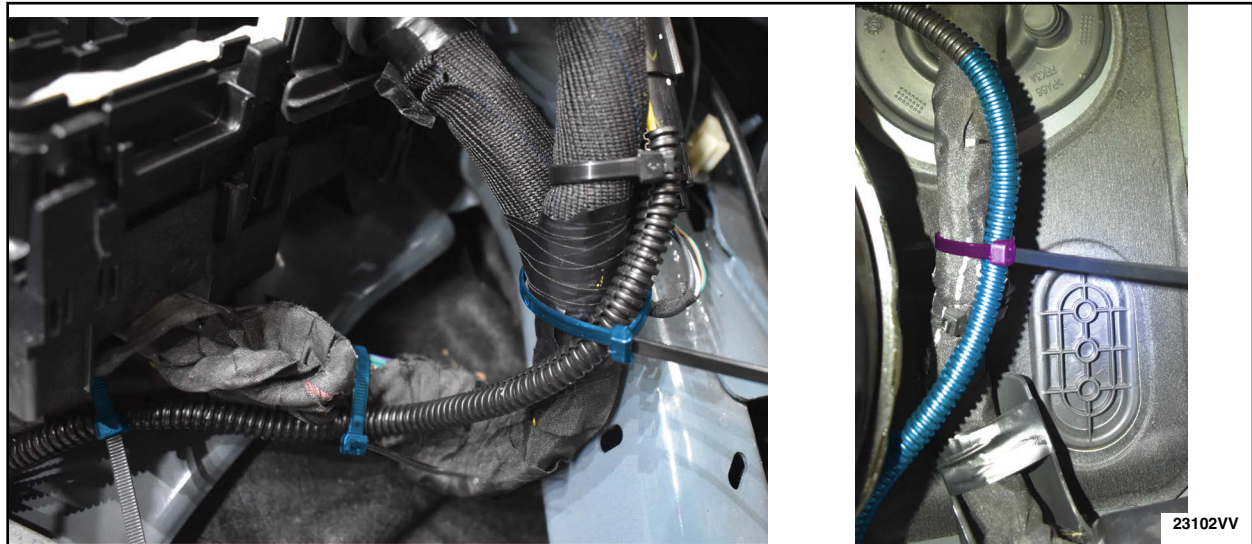

FIGURE 14
17. Zip-tie to the identified harness, stopping at the driver's side grommet. See Figure 14.